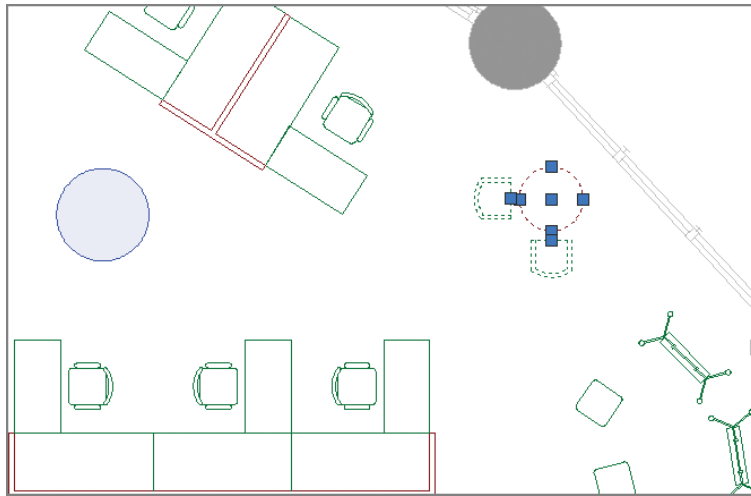

FIGURE 9.7 Deleting two armchairs and a side table to make way for a new sofa
2. Zoom into the upper-right building quadrant, select the two armchairs and round side table, and press the Delete key (see Figure 9.7).